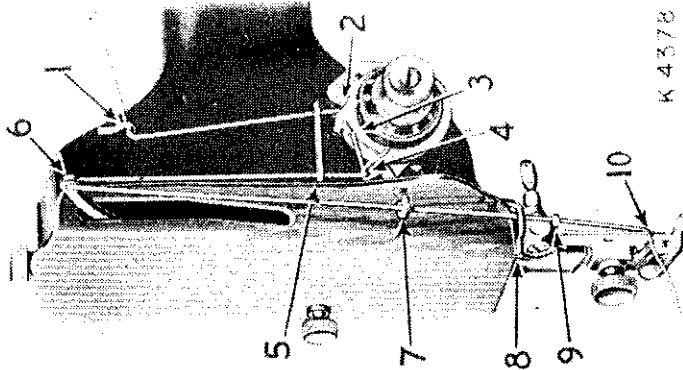
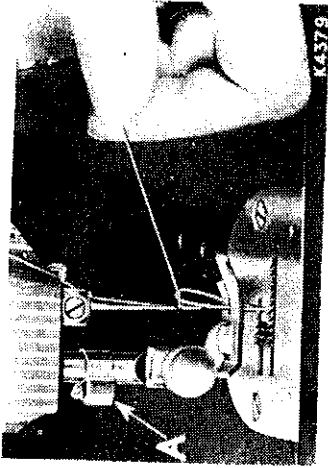
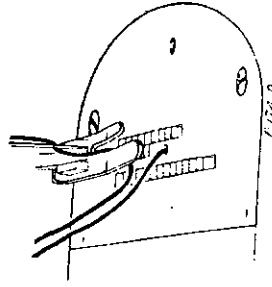

Fig. 14.
Fig. 15. Drawing Up Bobbin Thread
Fig. 15A. THREADS IN POSITION TO COMMENCE SEWING
Turn the balance wheel towards you until the take-up lever (6, Fig. 14) is at its highest point. Raise the bed extension (B) as far as it will go, and with the thumb and forefinger of the left hand, open the latch (A) and withdraw the bobbin case.
Upper Threading (See Fig. 14).
With the left hand hold the end of the thread, leaving it slack from the hand to the needle. Turn the balance wheel over toward you until the needle moves down and up again to its highest point, thus catching the bobbin thread. Draw up the needle thread and the bobbin thread will come up with it through the hole in the throat plate, as shown in Fig. 15. Lay both threads back under the presser foot diagonally across the feed, as shown in Fig. 15A, to the right or left, depending upon which side of the needle the material is to be located, so that when the presser foot is lowered, the threads will be firmly held between the feed and the presser foot.
Stop the machine with the thread take-up lever (6, Fig. 14) at its highest point and raise the presser foot. Draw the material back and to the left and sever the threads by passing them over the thread cutter (A, Fig. 15). Leave the ends of the threads a few inches long under and at the back of the presser foot.